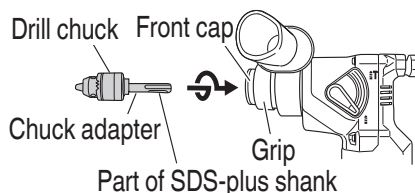

Fig. 21
- Installing drill chuck and chuck adapter. (Fig. 21)
- (1) Attach the drill chuck to the chuck adaptor.
- (2) The part of the SDS-plus shank is the same as the drill bit. Therefore, refer to the item of "Installing the drill bit" (on page 42) for attaching it.